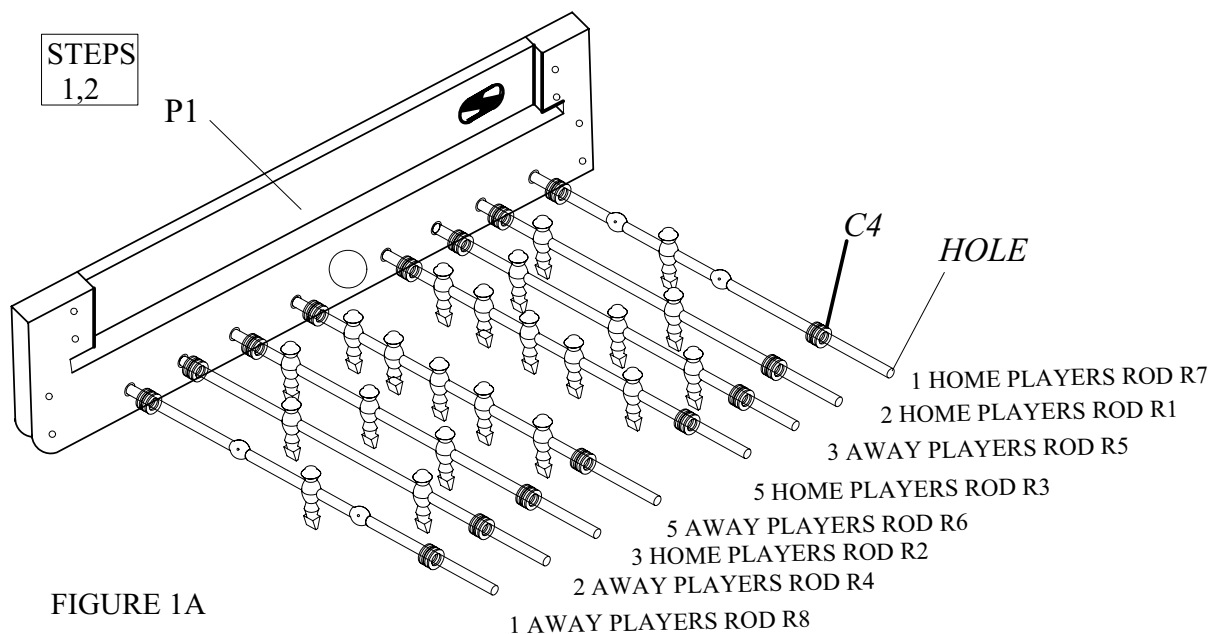

FIGURE 1A
- 1** CUT CORNERS OF THE BOX TOP AND PLACE IT ON THE FLOOR TO PROTECT THE PARTS AS THE UNIT IS BEING ASSEMBLED. PLACE SIDE PANELS ***P1*** UPSIDE DOWN WITH THE SLOT FACING INWARD AS SHOWN IN ***FIGURE 1A***.(BALL ENTRY HOLE WILL BE CLOSEST TO THE FLOOR.) TO EASE ASSEMBLY PUSH THE PRE-ASSEMBLED BUSHINGS AND PLASTIC WASHERS ON THE RODS UP AGAINST THE MEN. AT THIS TIME DO NOT CUT THE RUBBER BANDS THAT HOLD THE ASSEMBLY TOGETHER. ALIGN THE RODS AS SHOWN IN ***FIGURE 1A***. THE HANDLE ENDS OF THE RODS ARE THE ENDS WITH THE HOLES APPROX. 1/2"FROM THE END.
- 2** INSERT THE RODS THROUGH THE ROD BUSHINGS IN ONE SIDE PANEL AS SHOWN IN ***FIGURE 1A***.